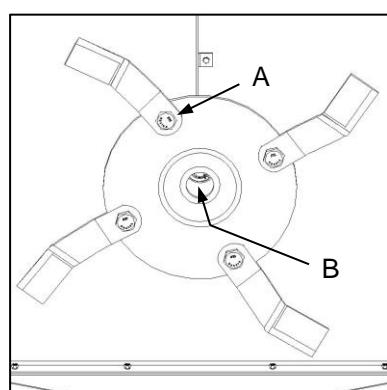
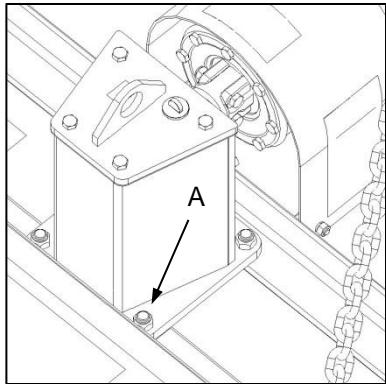
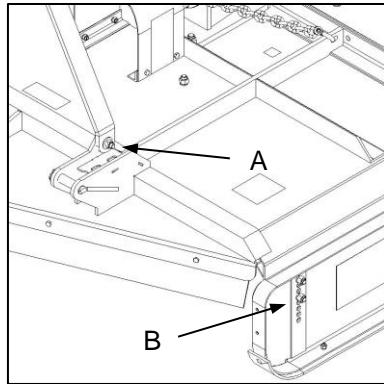

Fig. 1 (F40-120V)
Fig. 3
Fig. 4
- ✓ Check all fasteners for tightness. This includes special attention to safety-critical fasteners such as blade bolts and nuts (Fig. 1-A / 2-A), cutting gear mounting bolts (Fig. 1-B / 2-B), gearbox mounting bolts (Fig. 3-A), topmast mounting and pivot bolts (Fig. 4-A) and side panel retaining bolts (Fig. 4-B).
- ✓ Verseker dat alle hegstuks is. Dit sluit in spesiale aandag aan veiligheidskritieke hegstuks soos lem-boute en -moere (Fig. 1-A / 2-A), snymeganisme-montereboute (Fig. 1-B / 2-B), ratkasmonteerboute (Fig. 3-A), topmasmonter- en -spilboute (Fig. 4-A) en sypaneelmontereboute (Fig. 4-B).